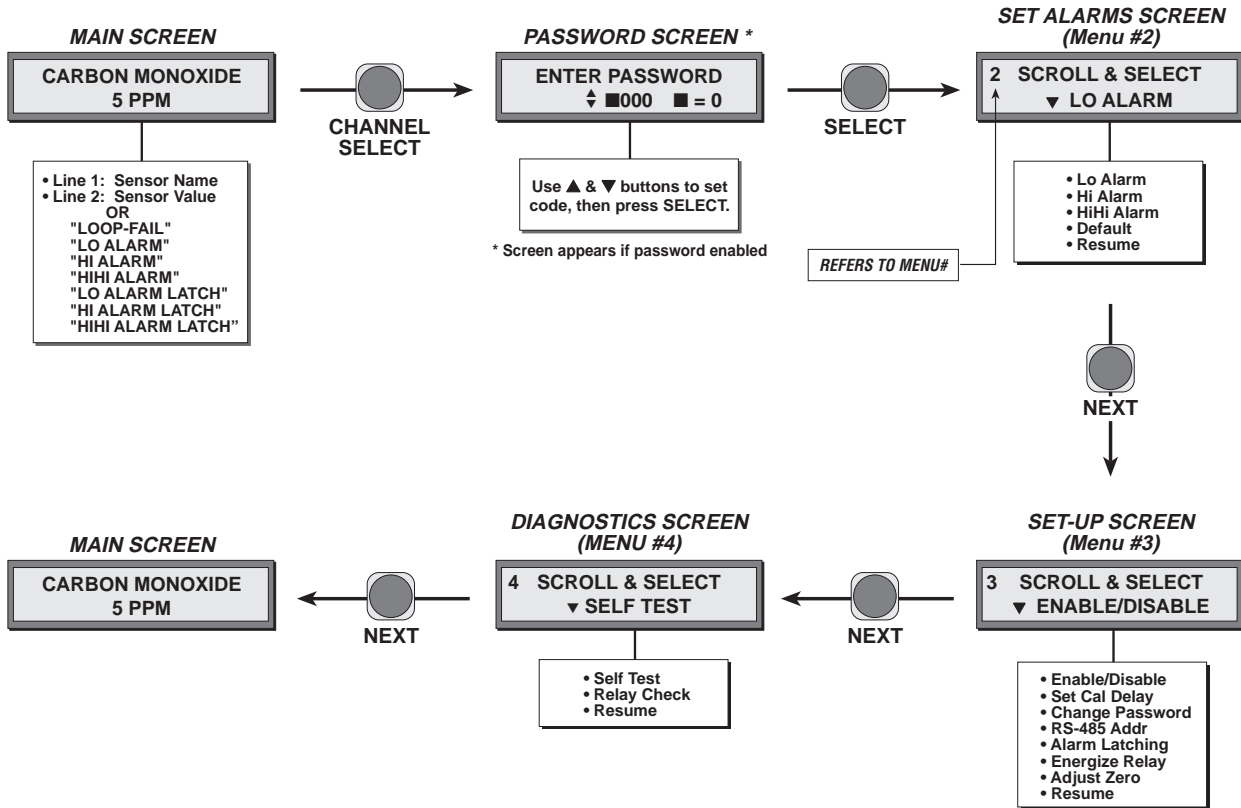

Figure 1.3
- Pressing the **NEXT** button after selecting a channel moves you through the Set Alarm, Set-up, and Diagnostics screens for that channel (see figure 1.3).
The Main Screen is the primary screen during normal operation. It displays the gas name and gas concentration (in ppm, %LEL, or %VOL). During alarm or fault conditions, the Main Screen displays warning messages on Line 2. These messages are shown in Figure 1.3.